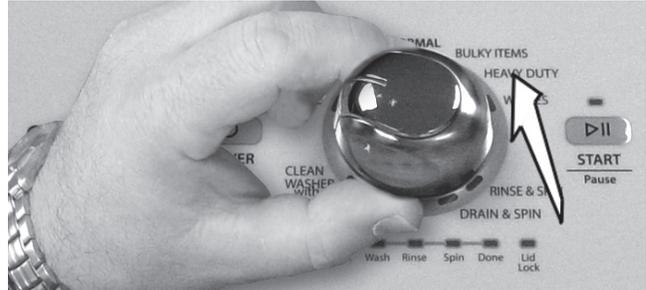

Figure 2
5. Remove the knob by grasping it and pulling it toward you, see figure 2.